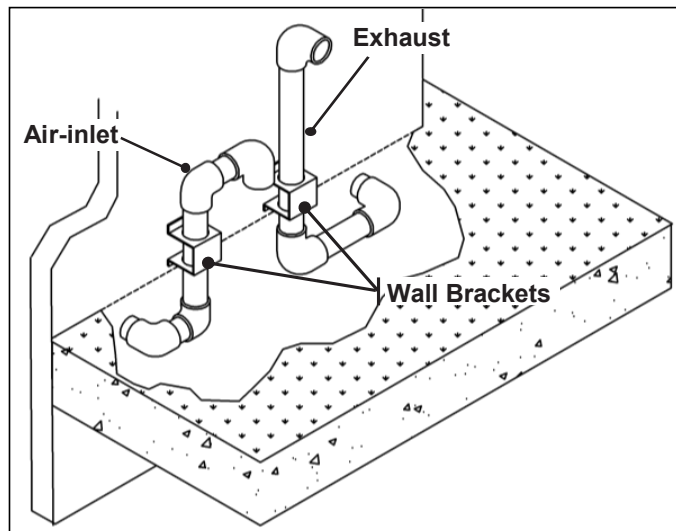

Figure 33 - Venting Below Grade
1. Excavate the site to a point where the pipes are to exit as shown in Figure 33.